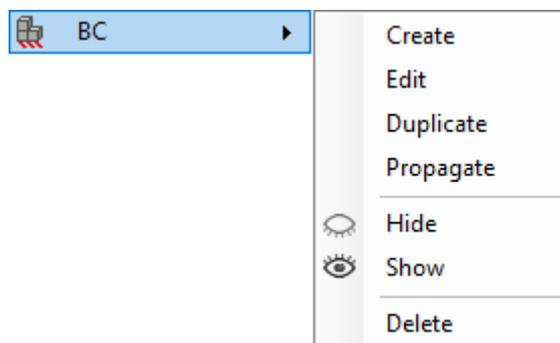

Figure 21: Boundary Conditions submenu
The Boundary Conditions (BC) submenu (Figure 21) contains the following options: